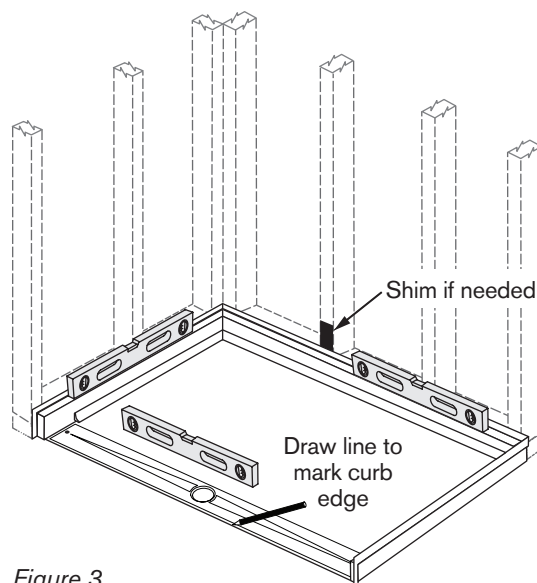

Figure 3
- 3 DRY-FIT THE PAN:** Set pan in the pocket. You **MUST** either dry-fit the shower walls or use a level to ensure pan is level, without low spots, and positioned correctly. Shim if necessary. Draw a line on the floor along front edge of pan. (Figure 3)